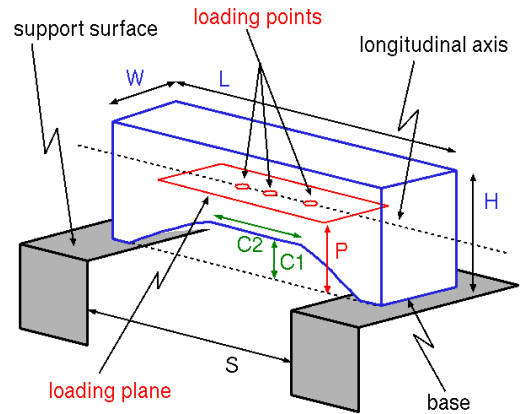

Figure 1. Bridge schematic (not to scale).
- The bridge (see Figure 1) must span a gap (**S**) of 300. mm, be no longer (**L**) than 400. mm, be no taller (**H**) than 150. mm above the support surface, and no wider (**W**) than 80. mm at the loading surface. The bridge structure may not project below the support surfaces (see Figure 1) and must provide a clearance (**C1**) of 20. mm at the center of the span and for 100. mm on either side of the center (**C2**).
- The load will be applied with the center of the plate at one of three (3) possible **loading points** on the longitudinal axis of the bridge: The center, 30. mm to the left of center and 40. mm to the right of center. The 3 loading locations must lie in the same horizontal loading plane (**P**) between 80. and 120. mm above the support surface (see Figure 1).